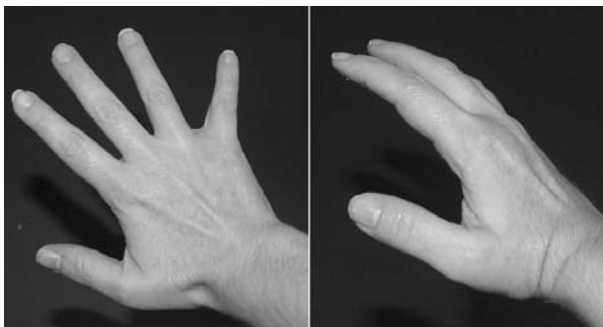
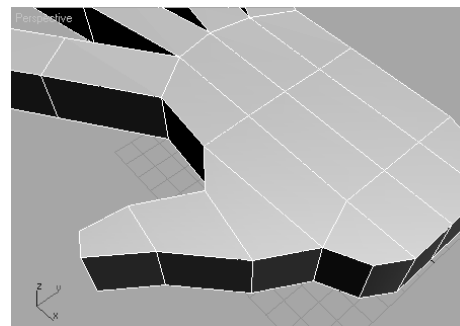

Figure 4.81
Figure 4.82
- To shape the thumb, you will use a combination of adjusting edge and poly locations. Figure 4.81 shows a picture of a hand; notice how the thumb extrudes from the bottom of the hand. Using Edge mode, rearrange the edges in the extruded thumb to create a shape as shown in Figure 4.82.